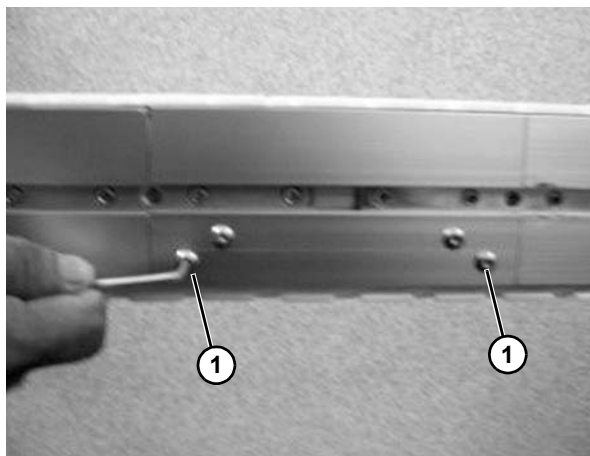

Figure 57
1. Loosen the screws (**Figure 57, item 1**) on the beam section flanges.